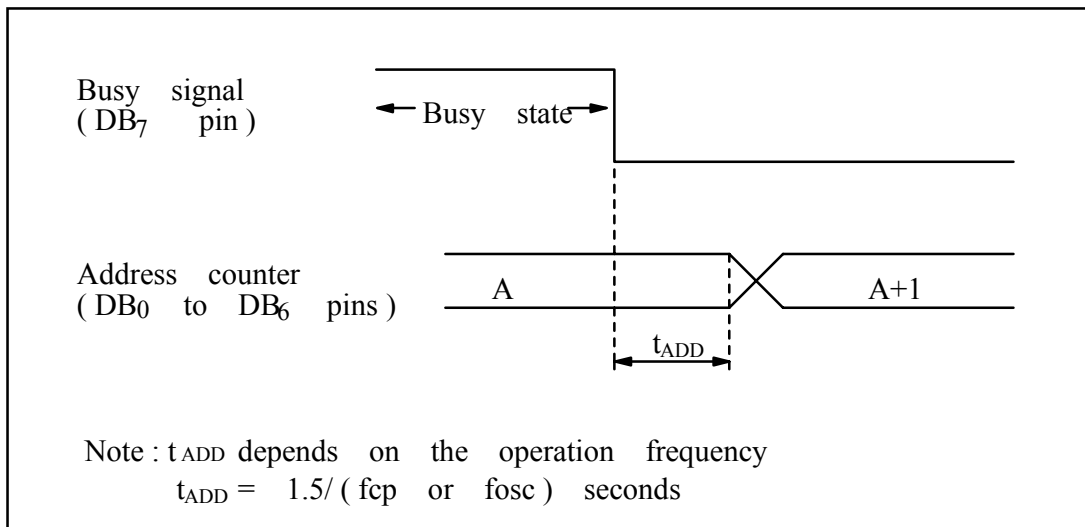

FIGURE 8 ADDRESS COUNTER UPDATE
*After execution of the CG RAM/DD RAM data write or read instruction, the RAM address counter is incremented or decremented by 1. The RAM address counter is updated after the busy flag turns off. In figure 8, t_{ADD} is the time elapsed after the busy flag turns off until the address counter is updated.